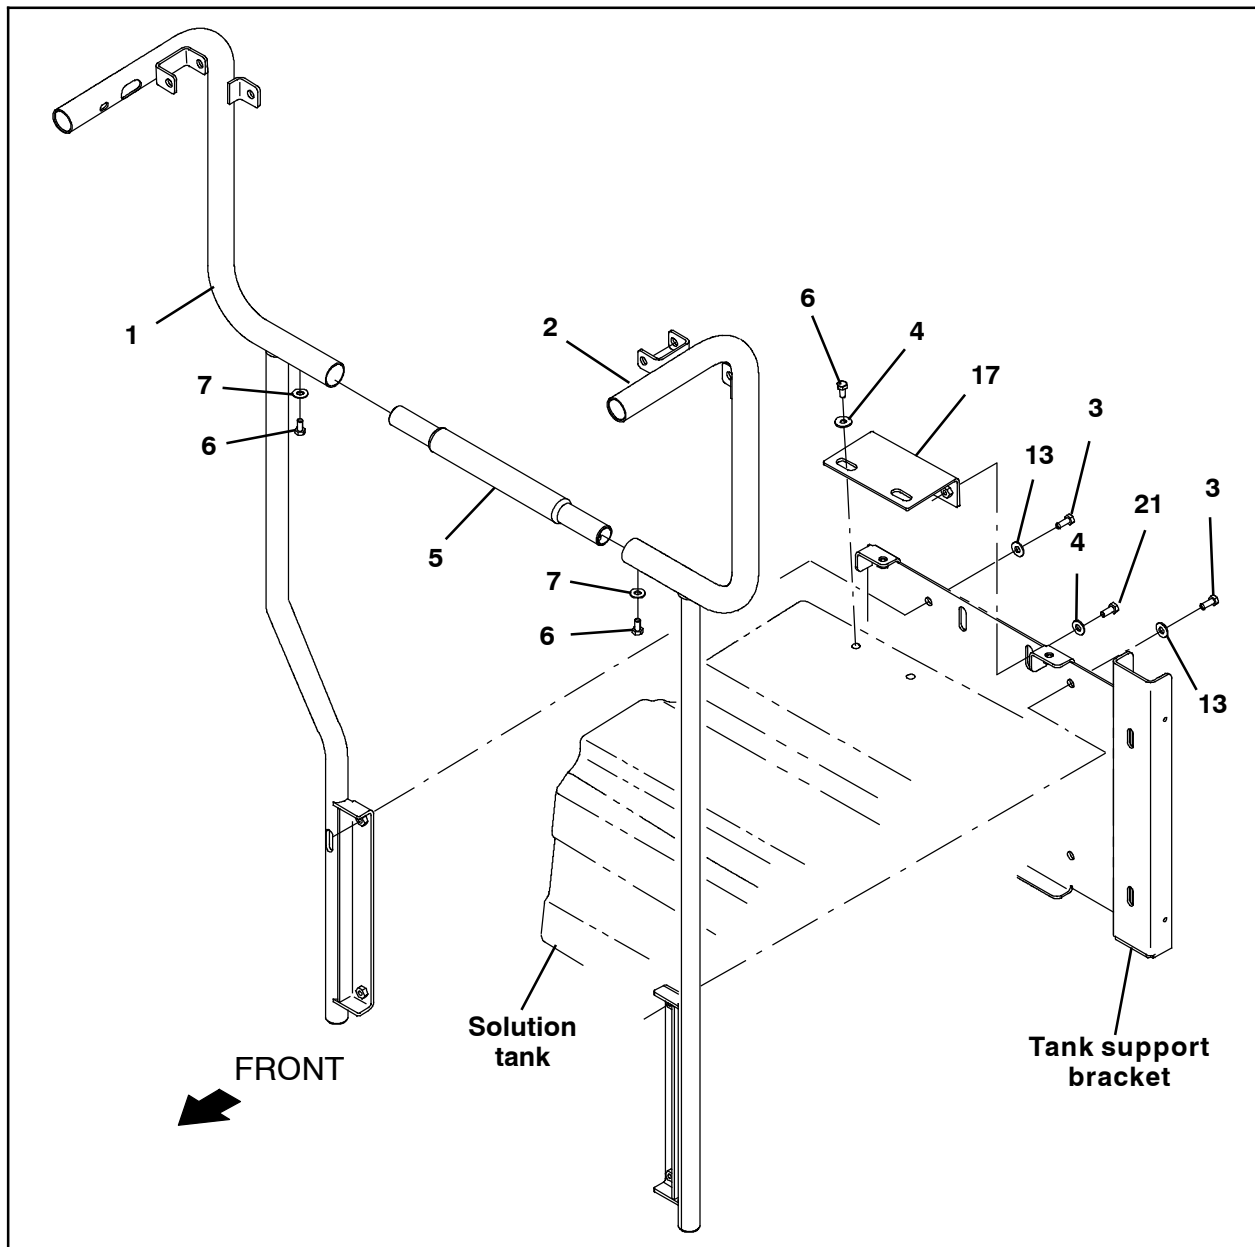
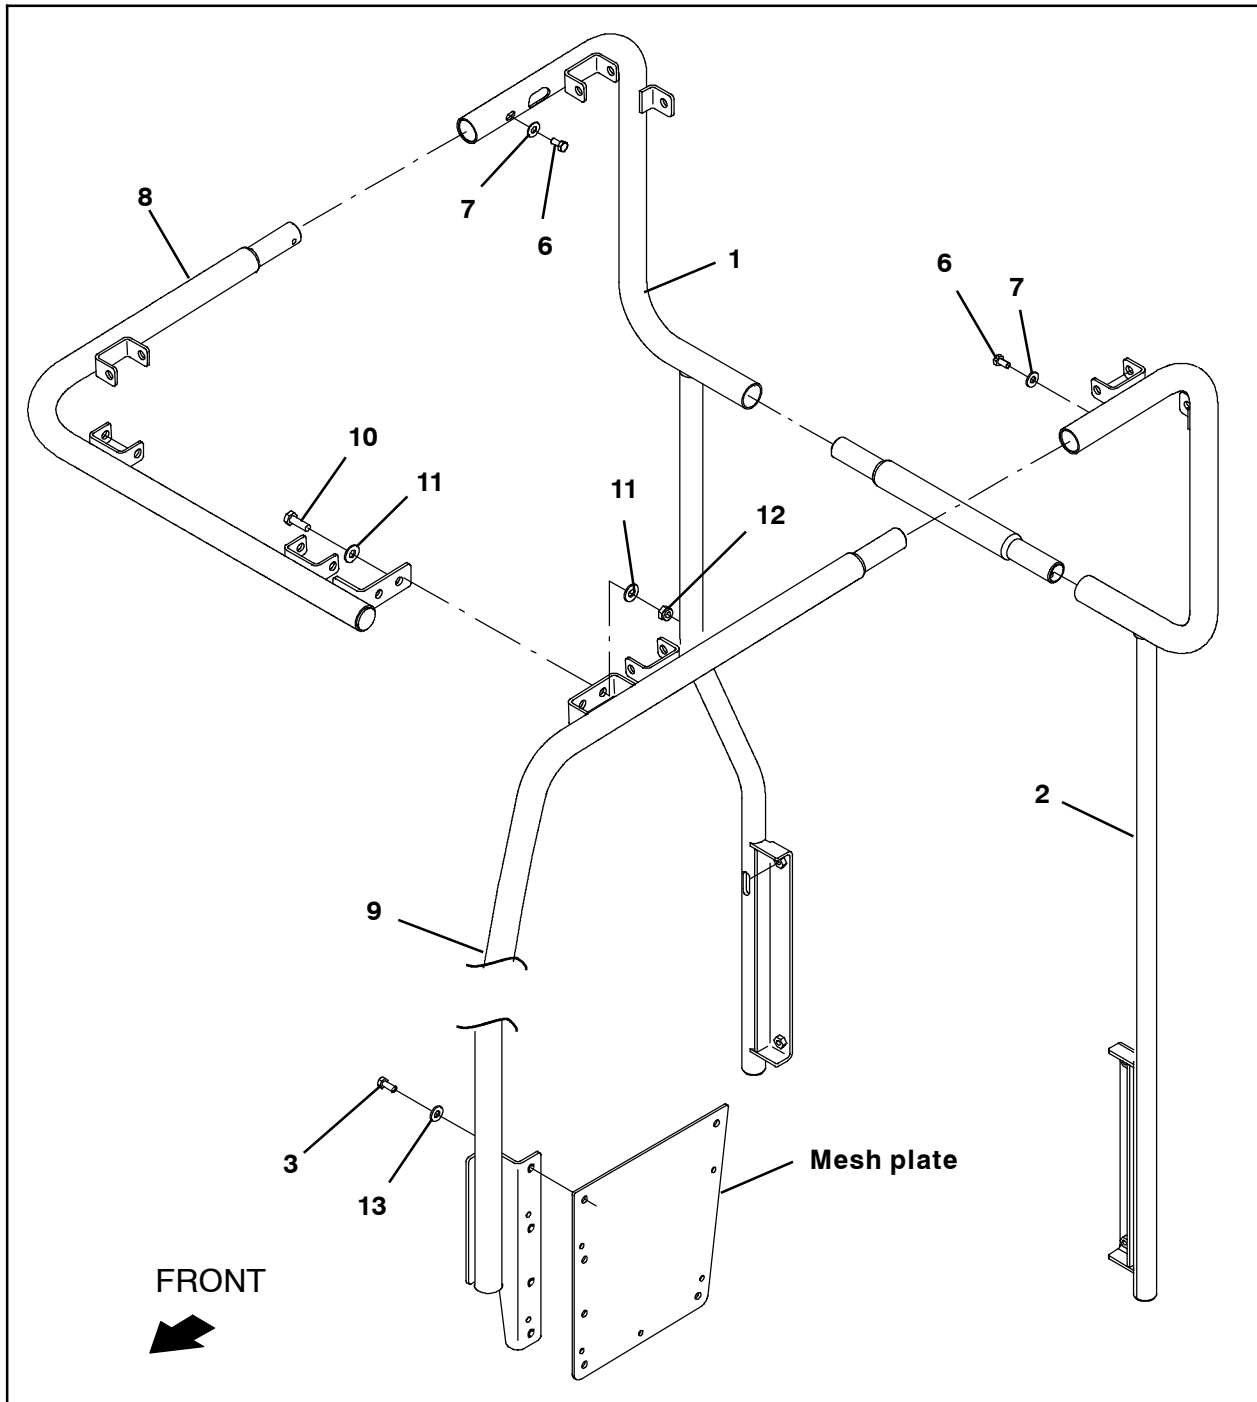
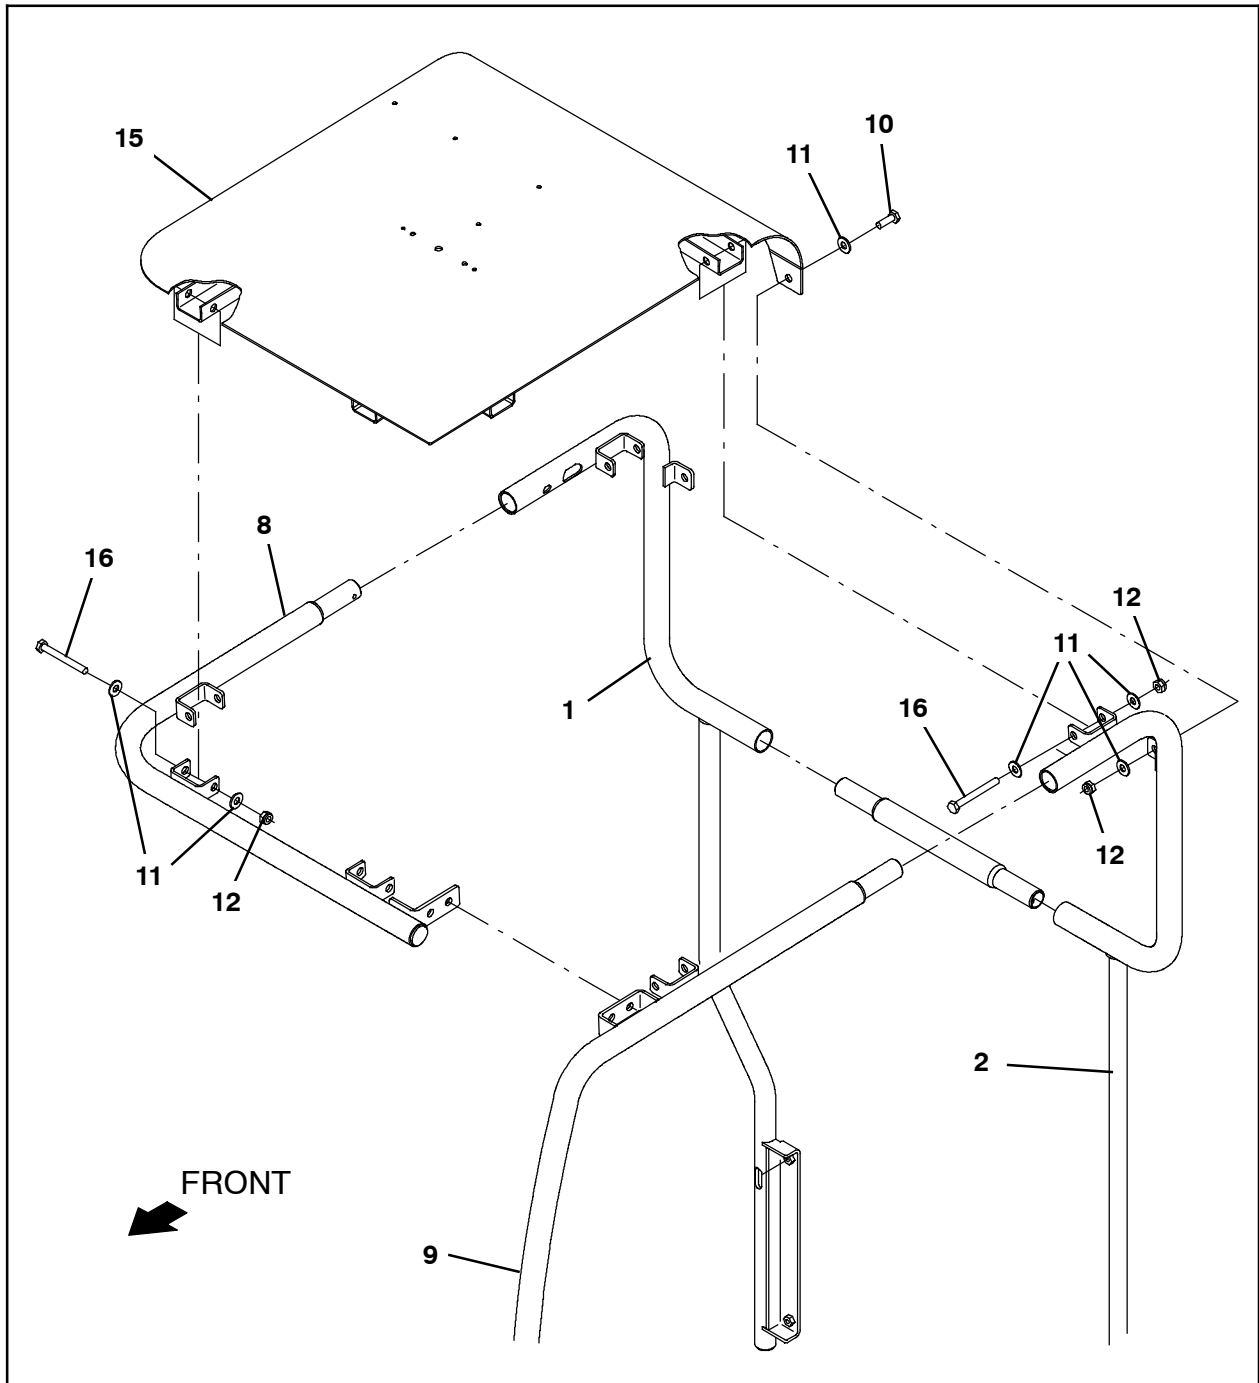

FIG. 10
FIG. 13
FIG. 14
13. Use two M8 hex screws (3) and two flat washers (13) to install the left overhead guard (2) tube onto the tank support bracket. (Fig. 10)
14. Install the rear overhead guard tube (5) onto the left overhead guard tube (2). (Fig. 10)
15. Slide the right overhead guard tube (1) onto the rear overhead guard tube (5) and use two M8 hex screws (3) and two flat washers (13) to install the right overhead guard tube (1) onto the tank support bracket. (Fig. 10)
16. Use two M8 hex screws (6) and two flat washers (4) to install the overhead guard mounting bracket (17) onto the solution tank. (Fig. 10)
17. Use two M8 hex screws (21) and two flat washers (4) to install the overhead guard mounting bracket (17) onto the tank support bracket. (Fig. 10)
18. Use a M8 hex screw (6) and flat washer (7) to secure the rear overhead guard tube (5) to the right overhead guard tube (1) and left overhead guard tube (2). (Fig. 10)
21. Install the left front guard tube (9) onto the left overhead guard tube (2) and use four M8 hex screws (3) and four flat washers (13) to install the left front overhead guard tube onto the mesh plate. (Fig. 13)
22. Use a M8 hex screw (6) and a flat washer (7) to secure the left front guard tube (9) into the left overhead guard tube (2). (Fig. 13)
23. Install the front tube (8) onto the right overhead guard tube (1). (Fig. 13)
24. Use two M10 hex screws (10), four flat washers (11), and two hex nuts (12) to secure the front tube (8) onto the left overhead guard tube (2). (Fig. 13)
25. Use a M8 hex screw (6) and a flat washer (7) to secure the front tube (8) into the right overhead guard tube (1). (Fig. 13)
26. Use six M10 hex screws (16), twelve flat washers (11), and six M10 hex nuts (12) to install the overhead guard top (15) onto the right overhead guard tube (1), left overhead guard tube (2), front tube (8), and left front guard tube (9). (Fig. 14)
27. Use a M10 hex screw (10), two flat washers (11), and a hex nut (12) to secure the overhead guard top (15) to the right overhead guard tube (1) and left overhead guard tube (2). (Fig. 14)
28. Adjust all previously installed parts as necessary and tighten all hardware to completely secure the overhead guard assembly to the machine. (Fig. 10 / Fig. 13 / Fig. 14)